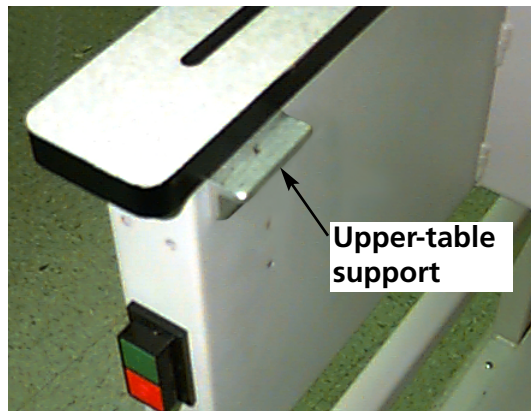

Figure 2-12
1. Raise the sewing table by lifting the front of the table and pulling it towards you. Place the tabletop on the upper table supports (Figure 2-12) and push the tabletop towards the rear of the machine. The tabletop will snap into place.